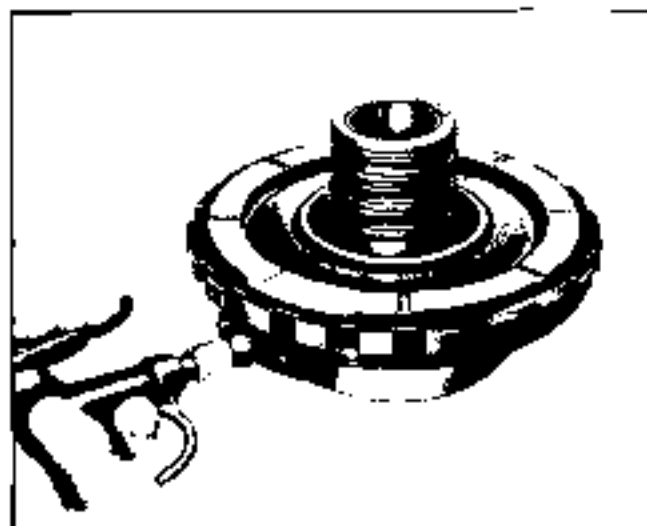

Fig. 7E-116 Air Checking Intermediate Clutch Piston
6. Check reaction carrier pinion end play. Should be .009"-.024" (Fig. 7E-117).